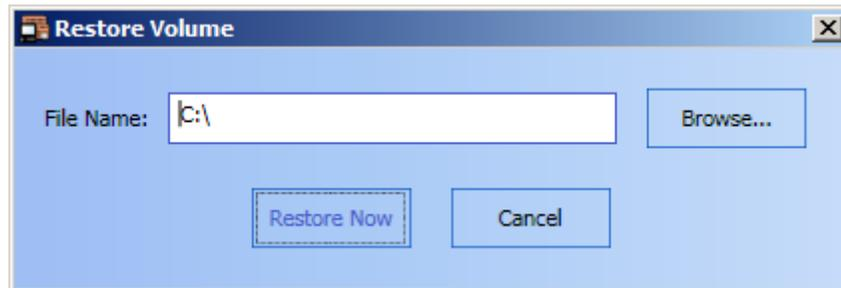

Figure 9-12 Restore Volume Dialog Box
4. A **Restore Volume** dialog box appears, as shown in Figure 9-12.